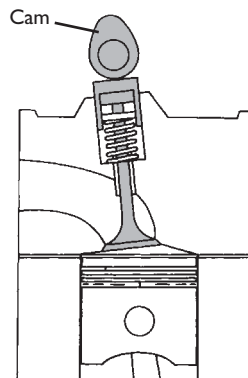

Figure 5.17 Overhead cam, direct acting and with automatic adjusters
- Overhead cam, direct acting and automatic adjusters (Figure 5.17). Most new engines now use an OHC with automatic adjustment. This saves repair and service time and keeps the cost to the customer lower. Systems vary between manufacturers, some use followers and some have the cam acting directly on to the valve. In each case, though, the adjustment is by oil pressure. The valve is operated by a type of plunger which has a chamber where oil can be pumped under pressure. This expands the plunger and takes up any unwanted clearance.